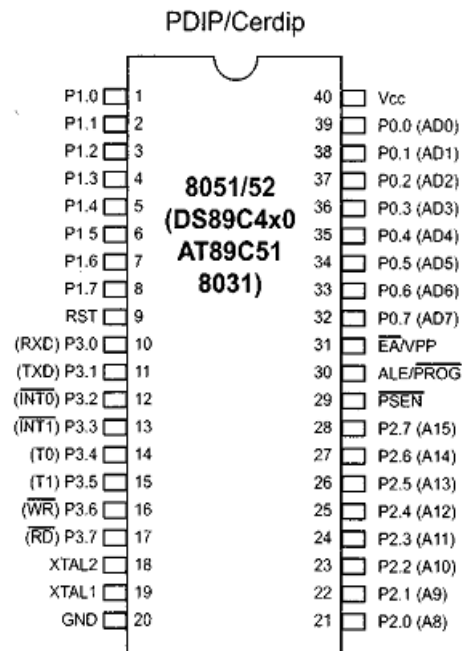

Figure 2.1 Pin Diagram of 8051 Microcontroller
**Theory:** Examining Figure 2.1, note that of the 40 pins, a total of 32 pins are set aside for the four ports P0, P1, P2, and P3 where each port takes 8 pins. The rest of the pins are designated as Vcc, GND, XTAL1, XTAL2, RST, EA, PSEN, and ALE.
As shown in Figure 2-1 the four ports PO, PI, P2, and P3 each use 8 pins, making them 8-bit ports. All the ports upon RESET are configured as input, since PO – P3 have value FFH on them. The following is a summary of features of PO – P3
As shown in Figure 2-1. Port 0 is also designated as ADO – AD7, allowing it to be used for both address and data. When connecting an 8051/31 to an external memory. Port 0 provides both address and data. The 8051 multiplexes address and data through port 0 to save pins. ALE indicates if PO has address or data. When ALE = 0. It provides data DO – D7. But when ALE = 1 it has address A0 – A7”. Therefore ALE is used for de-multiplexing address and data with the help of a “4LS373 latch,. In the 8051-based systems where there is no external memory connection, the pins of PO must be connected externally to a 10K-ohm pull-up resistor. This is due to the fact that PO is an open drain, unlike P1, P2, and P3. *Open drain* is a term used for MOS chips in the same way that *open collector* is used for TTL chips. In many systems using the 8751, 89C51, or DS89C4xO chips, we normally connect PO to pull-up resistors. See Figure 8-4. With external pull-up resistors connected to PO, it can be used as a simple I/O port, just like PI and P2. In contrast to port 0, ports PI, P2, and P3 do not need any pull-up resistors since they already have pull-up resistors internally. Upon reset, ports PI, P2, and P3 are configured as input ports.
In 8051-based systems with no external memory connection, both P1 and P2 are used as simple I/O. However, in 8031/51-based systems with external memory connections, port 2 must be used along with P0 to provide the 16-bit address for the external memory. As shown in Figure 2-1, port 2 is also designated as A8 – A15, indicating its dual function. Since an 8031/51 is capable of accessing 64K bytes of external memory, it needs a path for the 16 bits of the address. While P0 provides the lower 8 bits via A0 – A7, it is the job of P2 to provide bits A8 – A15 of the address. In other words, when the 8031/51 is connected to external memory, P2 is used for the upper 8 bits of the 16-bit address, and it cannot be used for I/O. This is discussed in detail in Chapter 14.